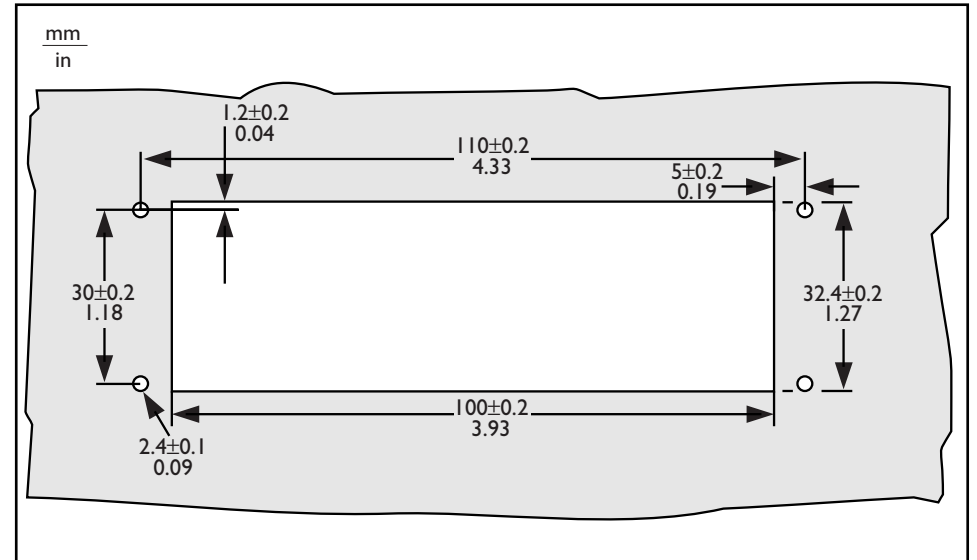

FIG 13-7 Flush-mounted Chairman Control Panel
- Mounting : Flush mounting using the units click-to-fit mechanism in a metal panel with a thickness of 2 mm, or flush mounting in a wooden surface using the units screw mounting facilities (4 screws provided). For cut-out dimensions refer to FIG 13-7.